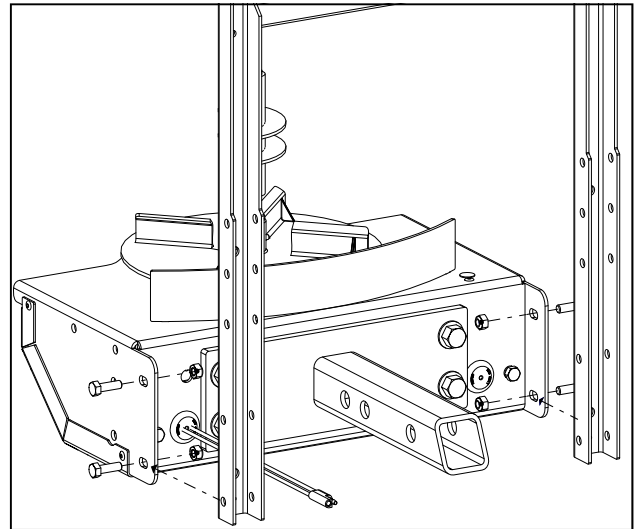

Fig 1.2
- 1.2 Mount the support frame to the drive assembly using the six supplied $5/16"$ x $1"$ cap screws and the four supplied $5/16"$ locknuts. Tighten the fasteners according to the torque chart. As shown in figure 1.2.